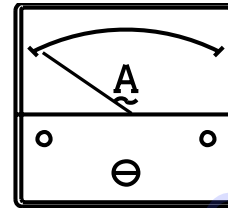

Figure 36. Ammeter (No Load)
- The ammeter (Figure 36) will indicate **zero amps** with no load applied. When a load is applied, the ammeter will indicate the amount of current that the load is drawing from the generator.